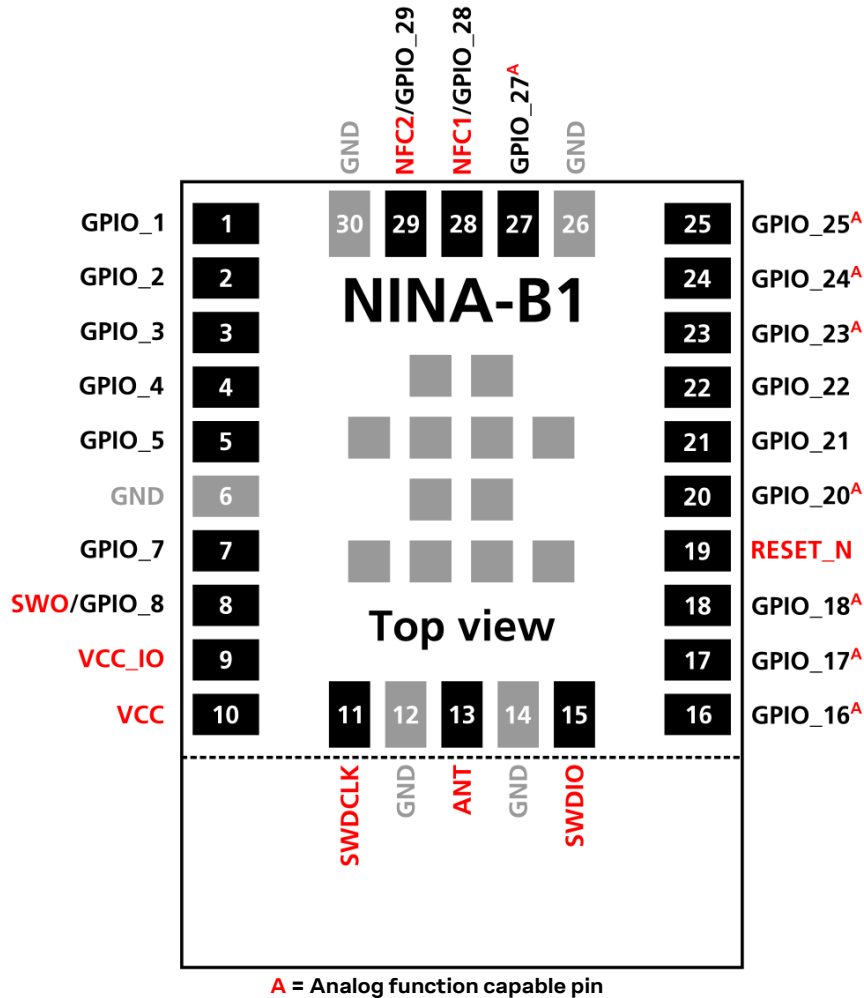

Figure 3: NINA-B1 series pin assignment (top view)
The pin-out described in Figure 3 below is an example pin-out that shows the module in an unconfigured state. Alternatively, if you use the u-connectXpress software, refer to the pin-out in section 3.2.
The grey pins in the center of the modules are GND pins. The outline of NINA-B111 ends at the dotted line as shown in Figure 3, where the antenna area of NINA-B112 begins.
- All digital or analog functions described in this data sheet may be freely assigned to any GPIO pin. Analog functions are limited to analog capable pins. Signals marked **red** in Figure 3 are not freely assignable but locked to a specific pin.